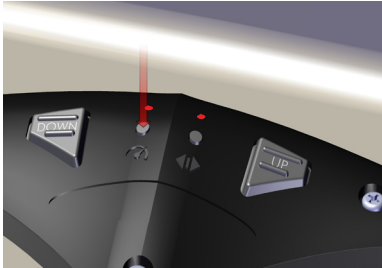

Figure 1
1. The foot switch has three speed settings (slow, medium, & fast). Depressing and releasing the "speed" button on the foot switch will toggle through the three settings. (See Figure 1)